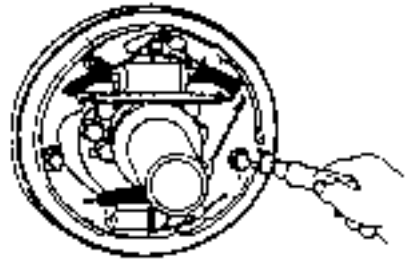

Fig.2-12
(1) Remove the hold-down spring of secondary shoe. Remove the anchor pin, adjust lever, adjusting device and spring. See Fig.2-12.